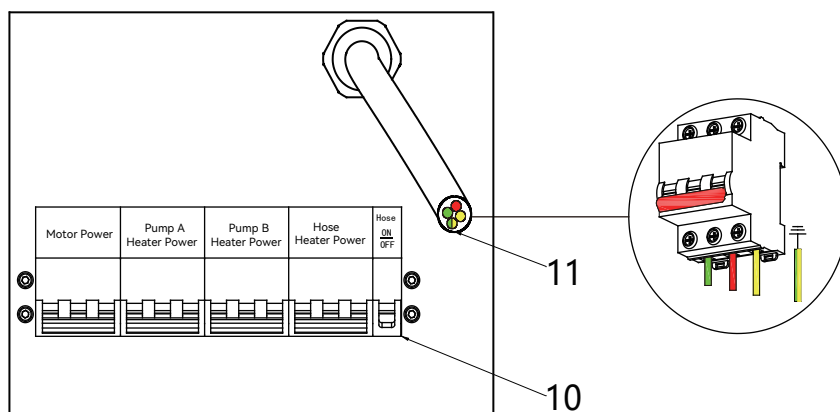

FIG. 4-1 EP7285 F Power Switch and Wiring Method (380V Type.)
Please choose a 380V AC connection, and the connected air switch must have a rated current of more than 40A. The method for connecting the power cord (11) to the air switch is shown in Figure 4-1: the green, red, and yellow wires are connected to the air switch, and the yellow-green wire is connected to the ground.